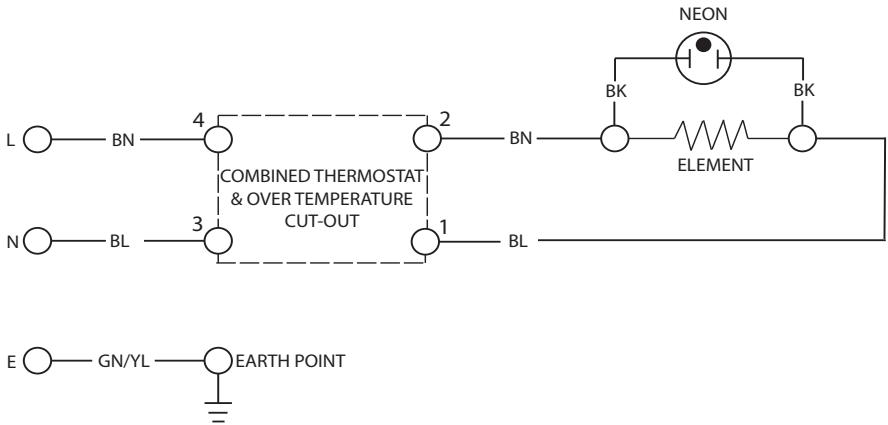

FIGURE 05: WIRING DIAGRAM
3.5.1 The unit is supplied fitted with a 0.75m 3 core 1mm² flexible cable. The electricity supply should be fused 13 Amp and be via a double pole isolating switch with a contact separation of at least 3mm in both poles. Refer to the schematic wiring diagram Figure 05 below.
2. Thermal cut-out tripped	Check cut-out, if operated, reset and check thermostat operation. If necessary replace thermostat/thermal cut-out (see Wiring Diagram Fig.05, page 8)